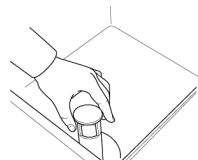

Fig.46
- 3- Open the door and remove the water flow device. (Fig.46)